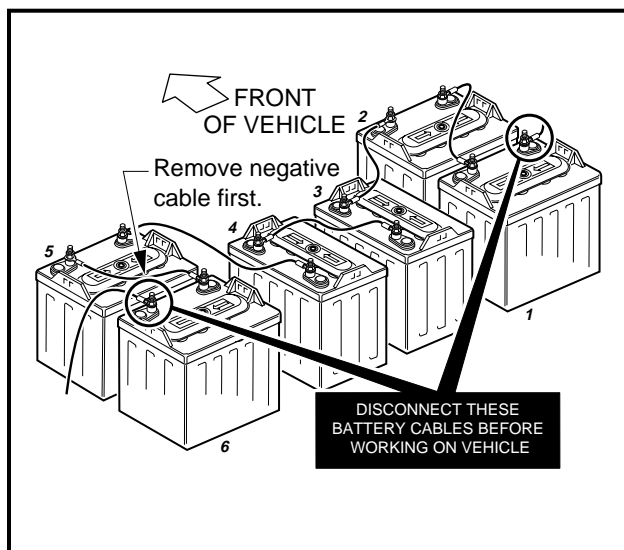
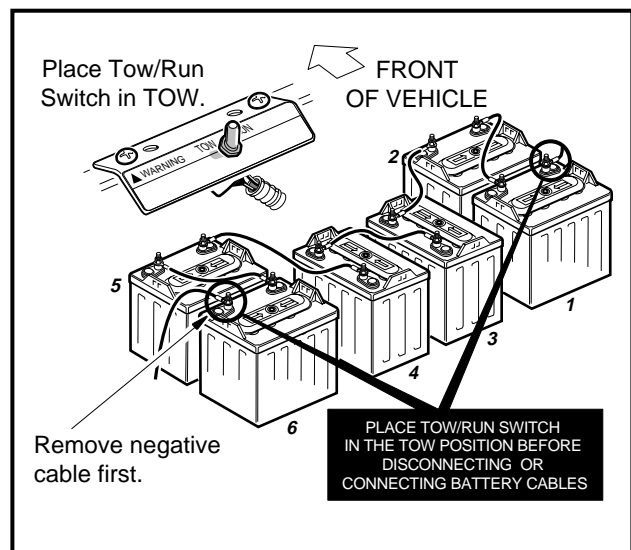

Figure 1 PowerDrive System 48 Vehicle
Figure 2 PowerDrive Plus and IQ System Vehicle
- To avoid unintentionally starting the vehicle, disconnect the batteries as shown (Figure 1 or Figure 2).